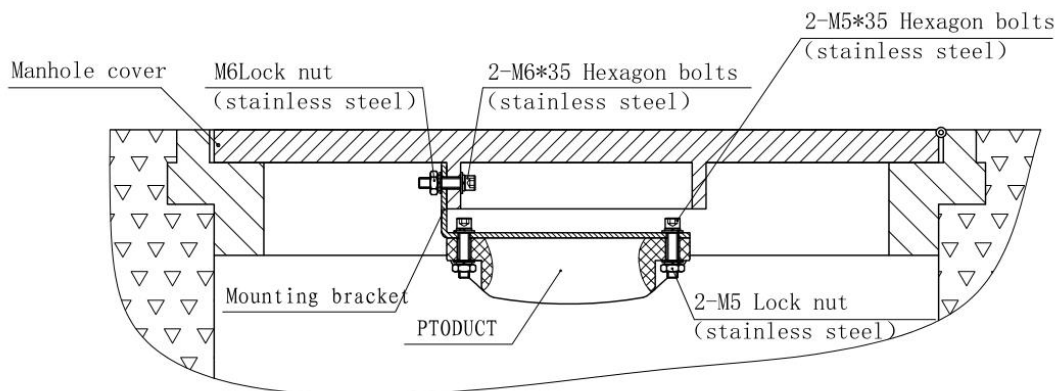

Figure 5 Installation Instruction with CS-iTWM-05D-A01
- 4) Thread the 2-M6 * 35 hexagon socket bolts, which are equipped with spring washers and flat washers, through the corresponding holes of the manhole cover and installation bracket in the order shown in Figure 5. Apply thread glue to the pre tightening positions of each bolt and nut, pre tighten the 2-M6 nut by hand, adjust the pre installed monitoring end face on the installation bracket to be basically parallel to the manhole cover surface, and then tighten the corresponding bolts and nuts with an Allen wrench and socket wrench to fix the installation bracket and manhole cover;